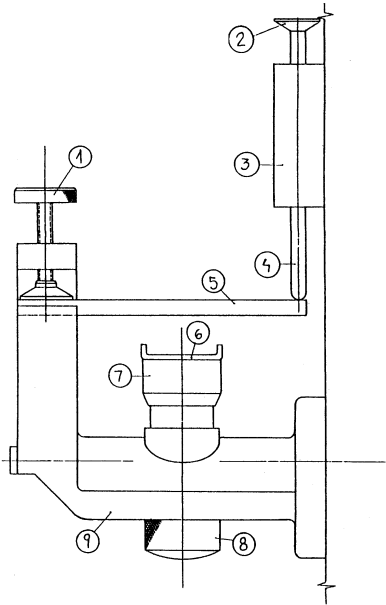

Figure 21: Hot Distortion Probe
- » To place the sand specimen in the Hot Distortion Probe (see Figure 21), first adjust the gap between the Clamp Knob (1) and the Specimen Bracket (9) large enough to introduce the Sand Specimen (5).
- » Gently lift up the Sensor Feeler (2) and introduce the Sand Specimen between the Specimen Bracket (9) and the Clamp Knob (1) and gently rest the Sensor Feeler (4) on the Sand Specimen.
- » While holding the Sand Specimen with one hand gently tighten the Clamp Knob (1) to secure the Sand Specimen between the Specimen Bracket (9) and the Clamp Knob (1).
6.2.3 Burner Head Setting (see Figure 21: Hot Distortion Probe)
4. To place the metallic dummy specimen in the Hot Distortion Probe (see Figure 21), first adjust the gap between the Clamp Knob (1) and the Specimen Bracket (9) large enough to introduce the Metallic Dummy Specimen (5).